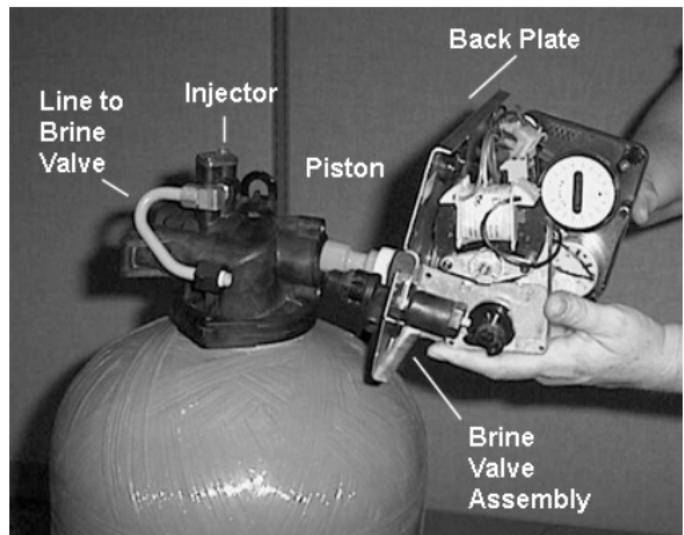

Figure 6
5. Grasp the back plate on both sides and slowly pull end plug and piston assembly out of the valve body (see "Figure 6")